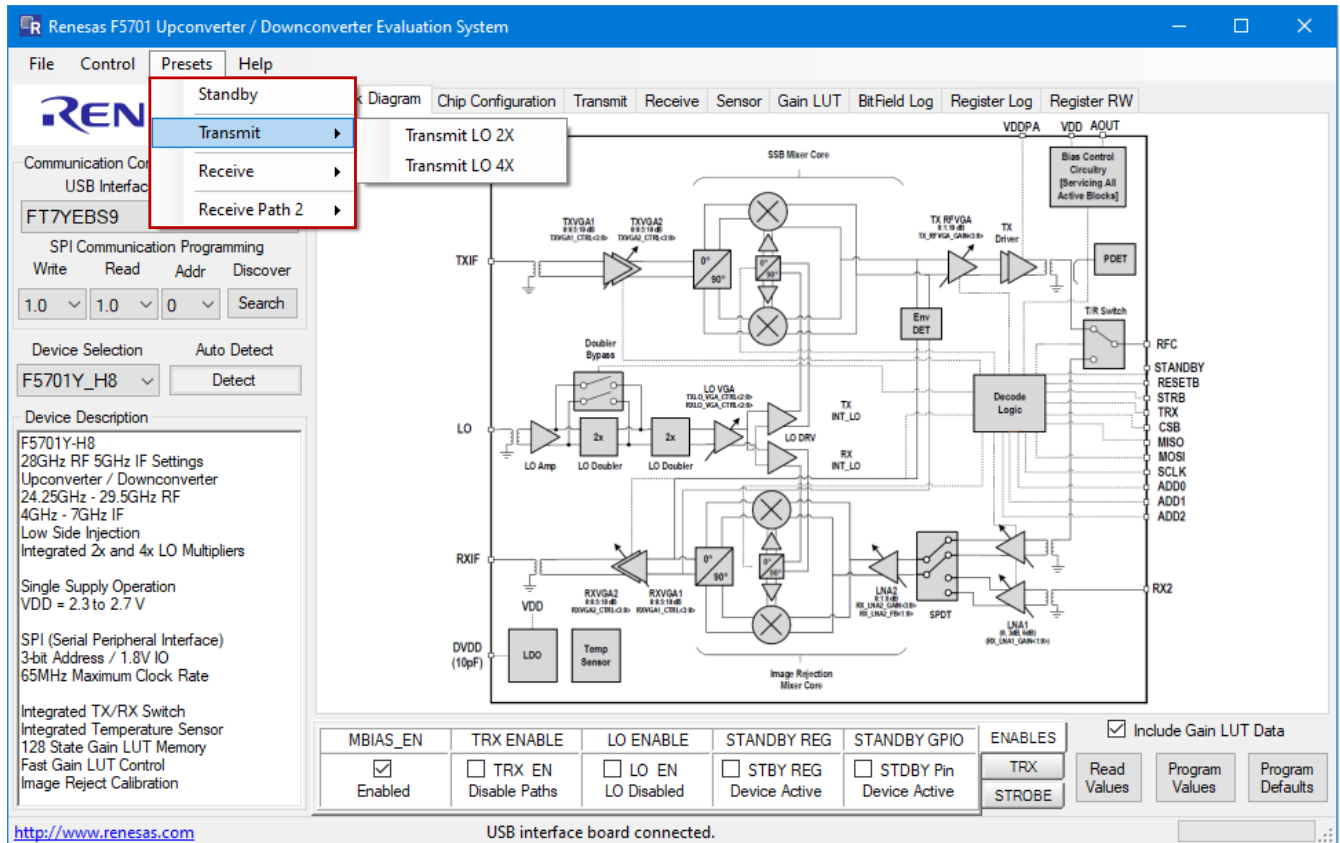

Figure 10. Presets Menu
- For convenience, the Presets menu (see Figure 10) is provided in this software for users to quickly program the device to one of the predefined states for the standby mode, transmit modes, receive modes, and receive-2 modes (RX2 path). For example, by selecting the **Transmit: Transmit LO2X** option, both TRX and LO signal paths will be enabled in the transmit mode with LO_SEL set to 0 for LOx2.